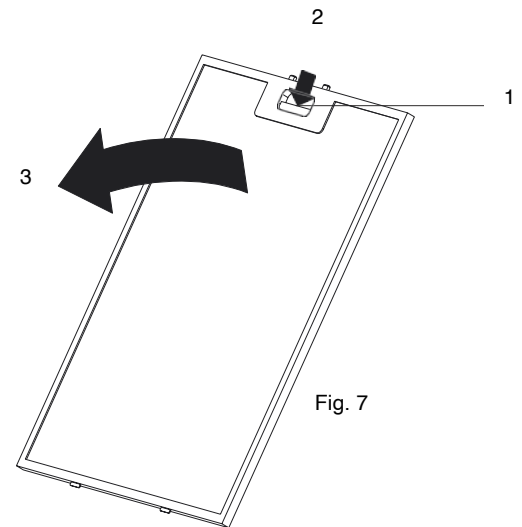

Fig. 7
To remove the aluminium grease filter first locate the opener tab (1) and press it gently sideways against its spring in the direction shown (2). Then pull the filter away from the hood gently in the direction of the arrow as shown (3) (Fig. 7).